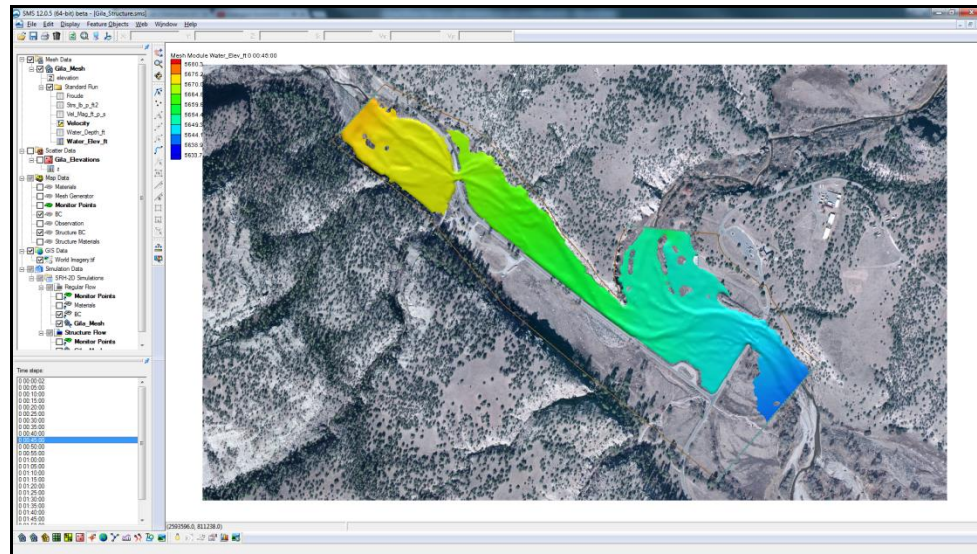

Figure 1 Gila_Structure.SMS project
4. Click **Open** to import the project and close the *Open* dialog. The Graphics Window should appear similar to that shown in Figure 1.